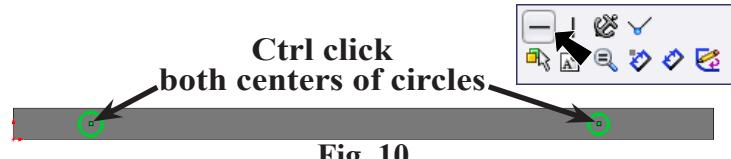

Fig. 10
Step 7. **Ctrl click center of both circles** to select both centers, **Fig. 10**. Release Ctrl key and click **Make Horizontal**  on the Content menu.